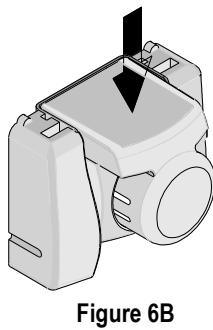

Figure 6B
5. Press the red insert down as far as it will go as shown in Figure 6B.
6. Holding onto the lower part of the locator with your thumb and index finger, insert the locator's top hooks (2) into the hand tool top slots.